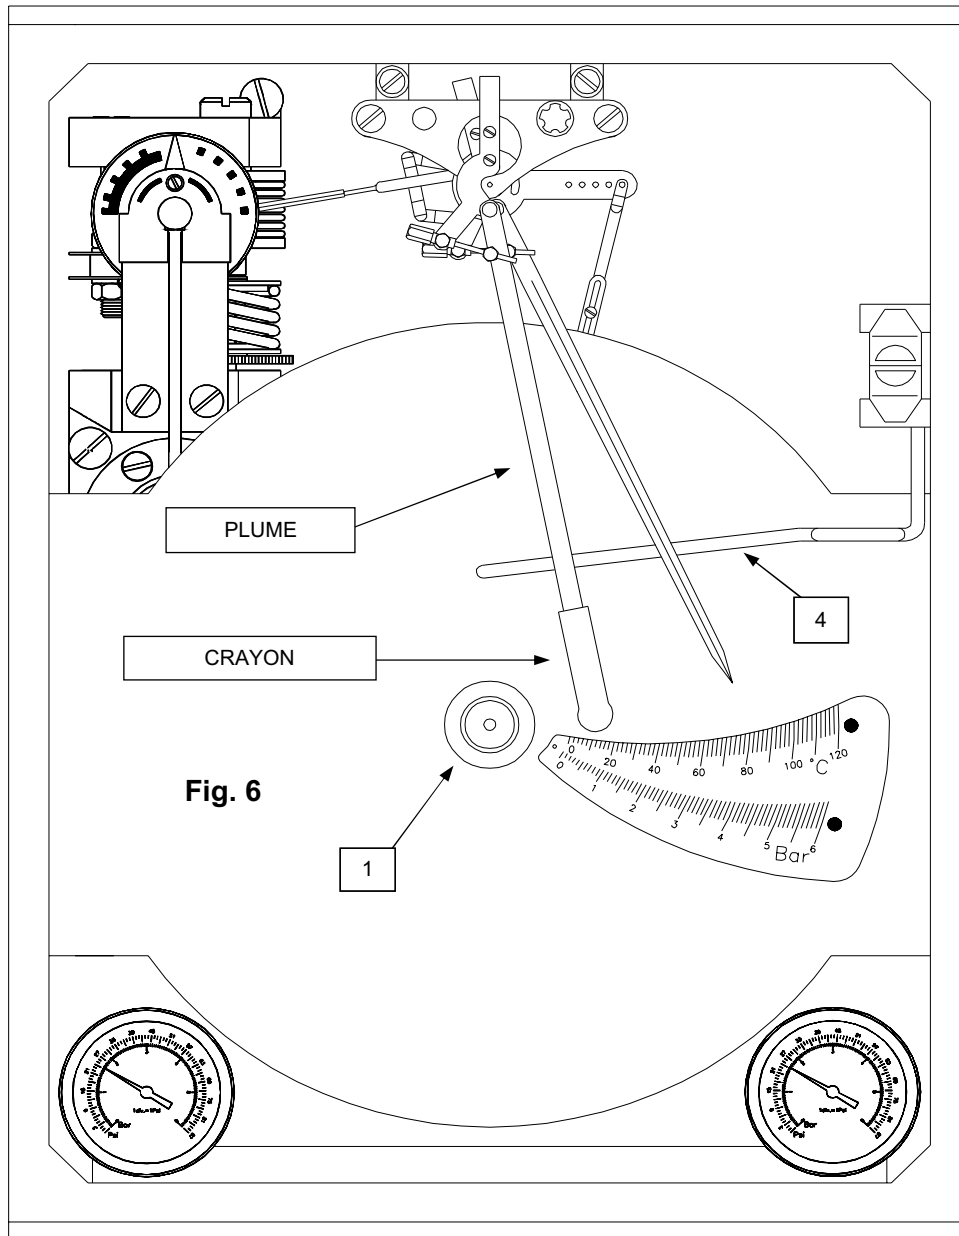

Fig. 6
6. FONCTIONNEMENT HORLOGES (Fig. 6)